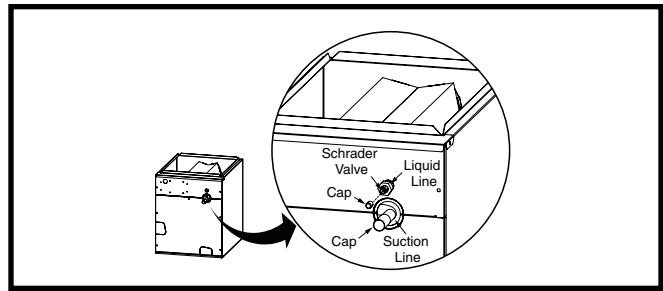

Figure 1. Suction & Liquid Line Locations
- Remove the cap from the end of the liquid line. See Figure 1.